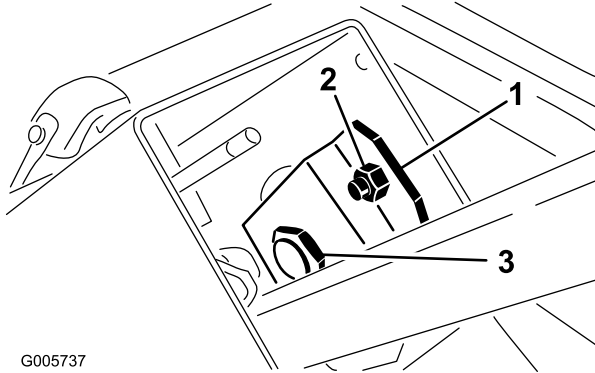

Figure 75
1. Remove knob from parking brake and self tapping screws from steering column cover. Slide cover up steering shaft to expose pivot bracket (Figure 75).
2. Loosen small nut, rotate pivot bracket until it tightens large nut below (Figure 75). Retighten small nut.